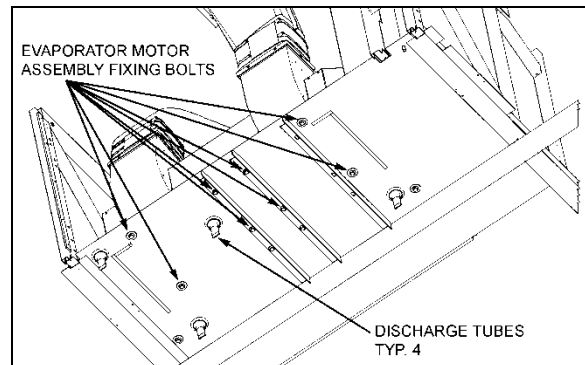

FIGURE 36: EVAPORATOR MOTOR BOLTS
7. From under the vehicle, remove the eight bolts fixing the double blower fan unit base. Remove the complete unit from the evaporator compartment (Figure 36).